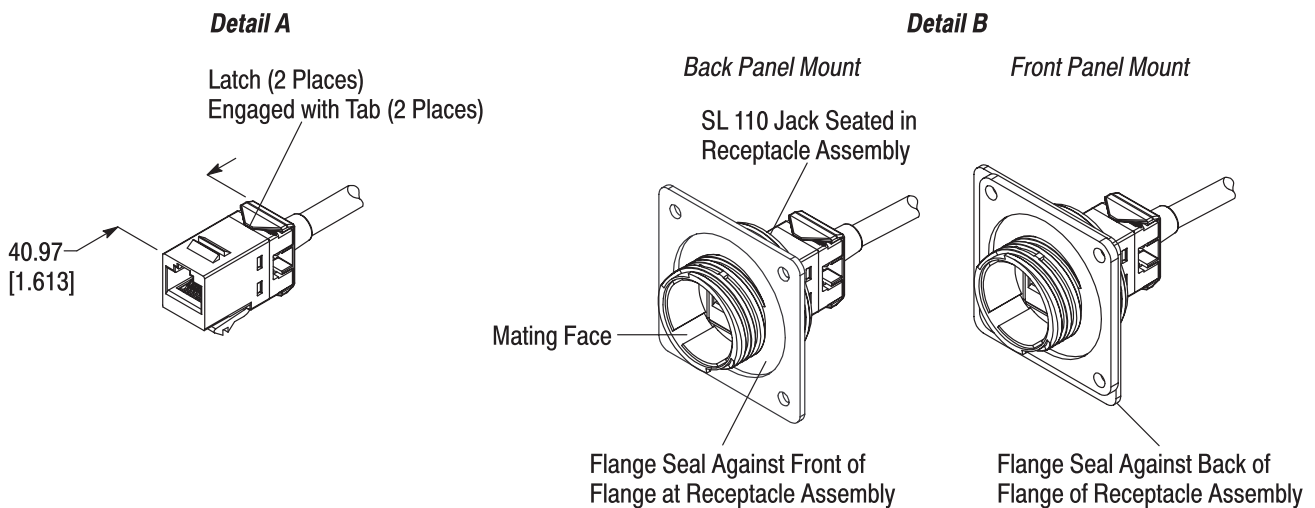

Figure 10
1. The latches of the bend-limiting strain relief must be engaged with the tabs of the SL 110 jack. The length of the assembly must meet the dimension given in Figure 10, Detail A.
3. The flange seal must be flat against the flange of the receptacle assembly—fitted over the front (mating face) of the flange for back panel mount or over the back of the flange for front panel mount. Refer to Figure 10, Detail B.